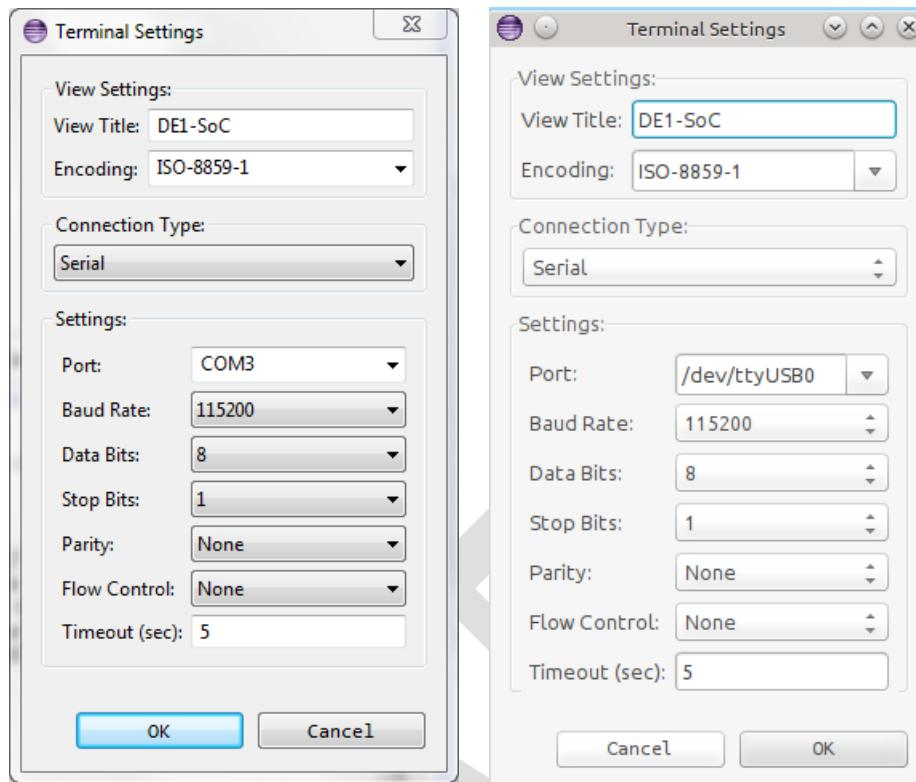

Figure 8-44. ARM DS-5 Serial Terminal Settings (Windows settings on the left, Linux settings on the right)
9. Modify the serial terminal's settings to match those shown in Figure 8-44, then press "OK" to start the connection.